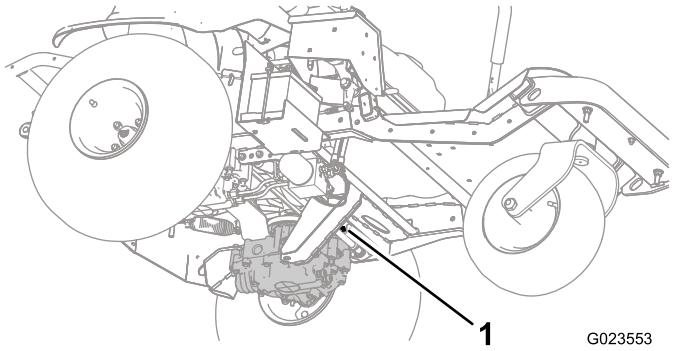
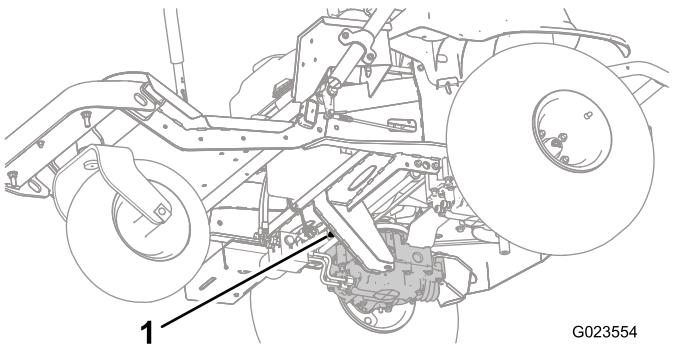
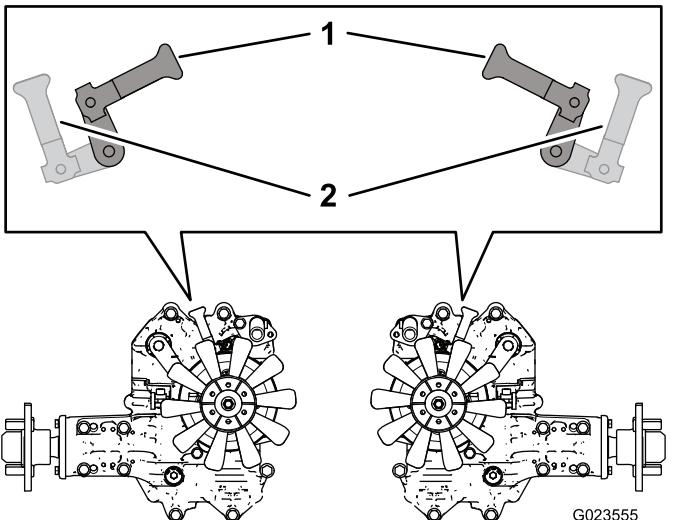

Figure 22
Figure 23
Figure 24
2. From underneath the machine, rotate the bypass-valve levers (Figure 22 and Figure 23) so that they point inward, toward the center of the machine (Figure 24), and disengage the parking brake; refer to Using the Parking Brake \(page 19\).
3. When you are finished pushing or towing the machine, rotate the bypass-valve levers so that they point toward the front of the machine, to allow the machine to drive (Figure 24).